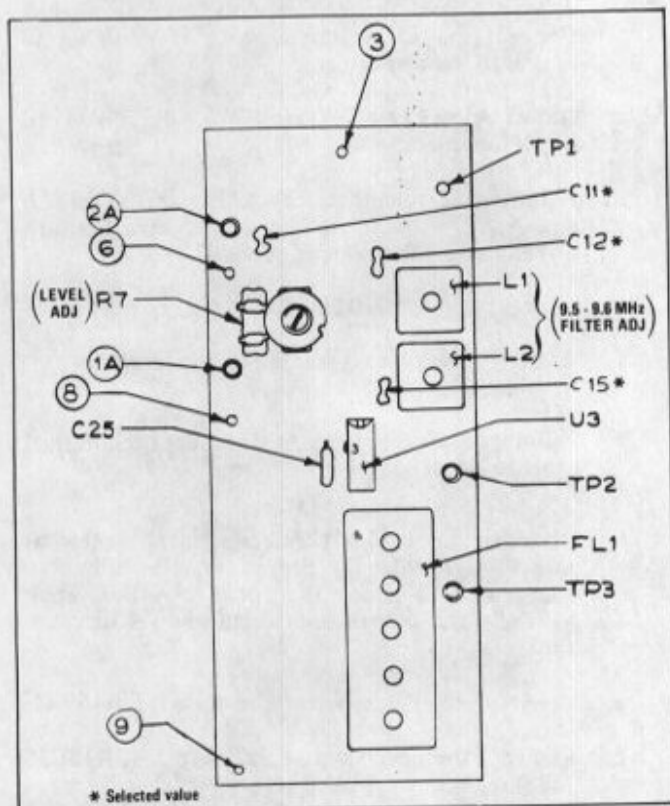

Figure 2-14. Trimmer Locations, 0.1, 1, 10 and 100 kHz Decade Assemblies, A3A thru A3D
- Withdraw assembly A3A and connect oscilloscope 10X probe to A3A-3 (5 MHz to 6 MHz input) and ground. Voltage should be 2.2 V p-p minimum. (See Figure 2-14)